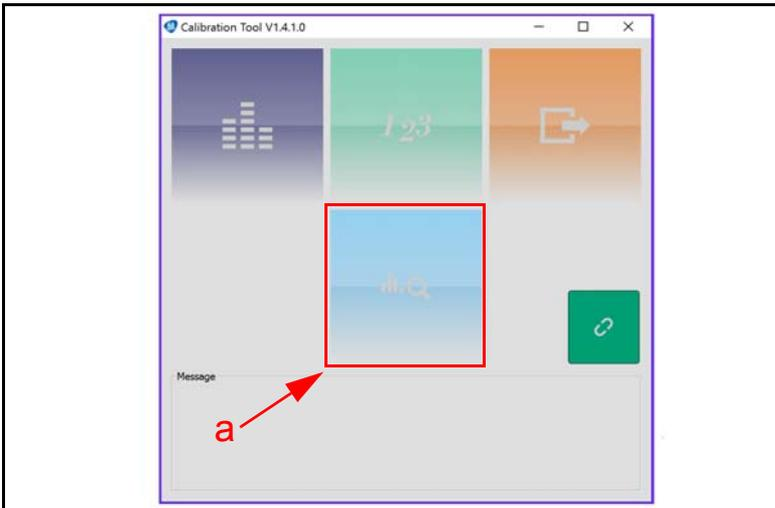
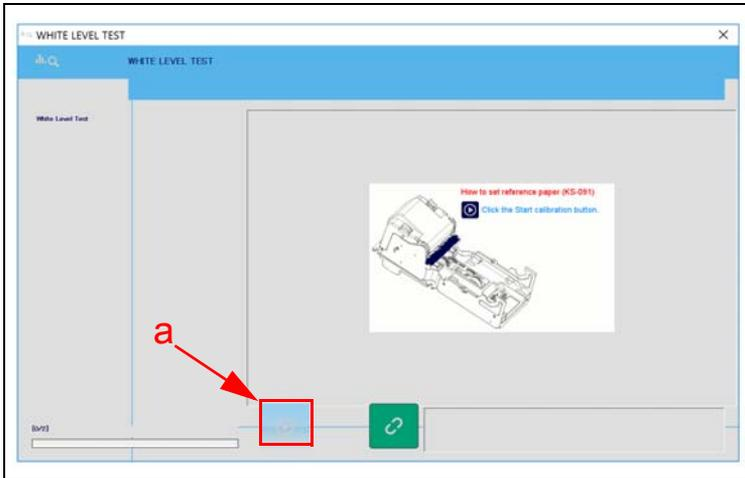

Figure 11 DBV-500 Calibration Tool
Figure 12 DBV-500 White Level Test Function
7. Confirm that the DBV-500 Calibration Tool is running, as shown in Figure 11.
8. Click the White Level Test function screen button (Figure 11 a). The White Level Test screen appears momentarily (refer to Figure 12).
9. Follow the onscreen prompts and click the Start button (Figure 12 a) to begin the DBV-500 White Level Test.